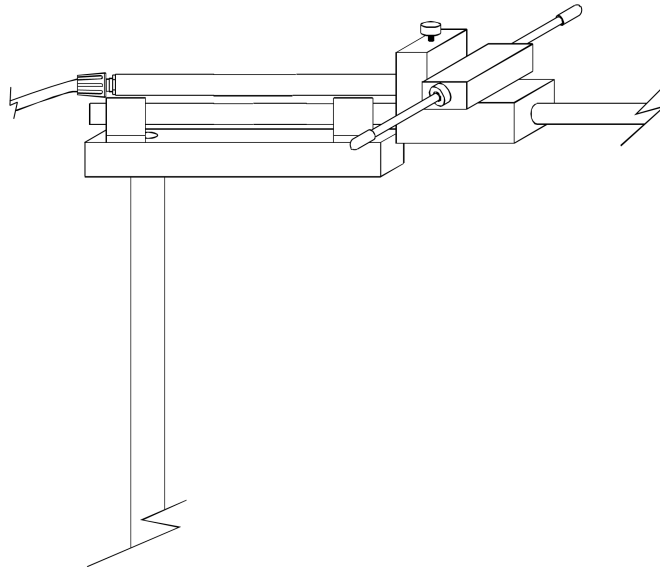

Figure 11. Set-up of the dipole attached to the aluminum boom
- ☐ 3. Set up a  $\lambda/2$  dipole antenna. Using the screw-on  $90^\circ$  adapter, attach the dipole to the aluminum boom. Place the mast with horizontal clips on the sliding support of the Antenna Positioner. Clip the antenna onto the mast, as shown in Figure 11.